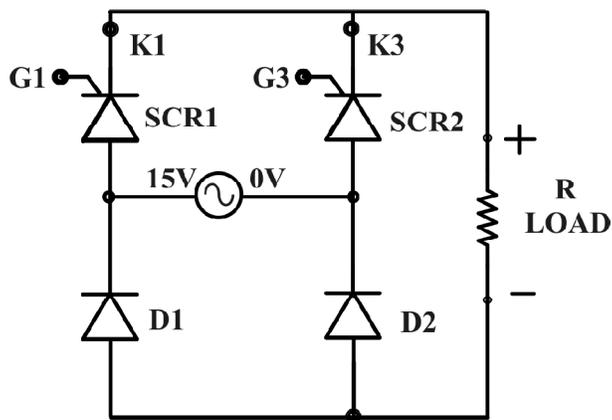

Figure 8
The circuit diagram of basic half controlled bridge rectifier (common cathode configuration) is shown in the below figure 8
5. Connect the circuit of half controlled bridge rectifier (common cathode configuration) as shown in figure 8 using 2 mm patch cords.
8. Vary the firing control Potentiometer and set on  $30^\circ$ ,  $60^\circ$ ,  $90^\circ$ ,  $120^\circ$  and  $150^\circ$  firing angles using equation (11).